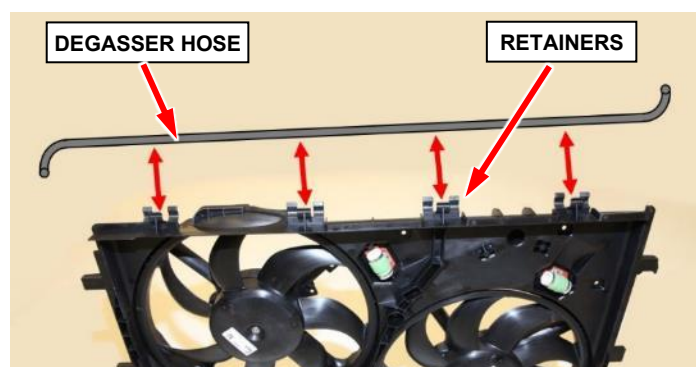

Figure 12 – Coolant Degasser Hose
9. Release the coolant degasser hose from the four retainers along the top edge of the cooling fan module then position the hose out of the way (Figure 12).
26. Install the coolant degasser hose to the four retainers along the top edge of the cooling fan module (Figure 12).